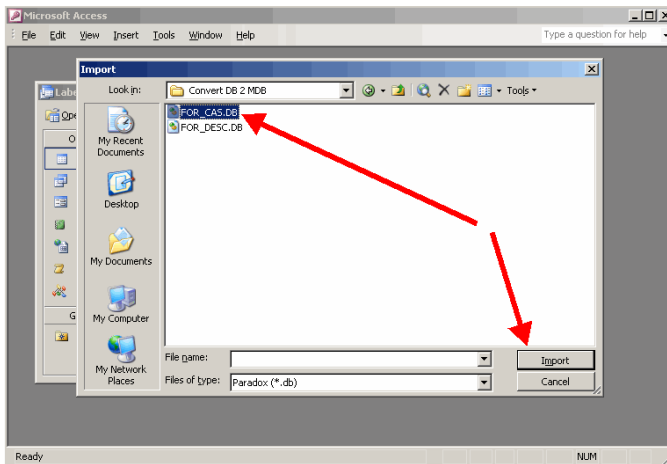
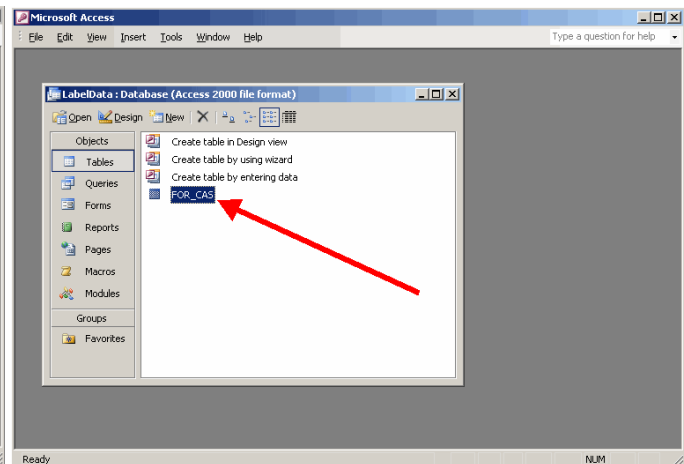

Figure 2-7a
Figure 2-7b
2.3.3. Highlight the database you want to import and click [Import]. (Figure 2-7a) You will see the Paradox database imported into your MS Access 2003 database as a table. (Figure 2-7b)